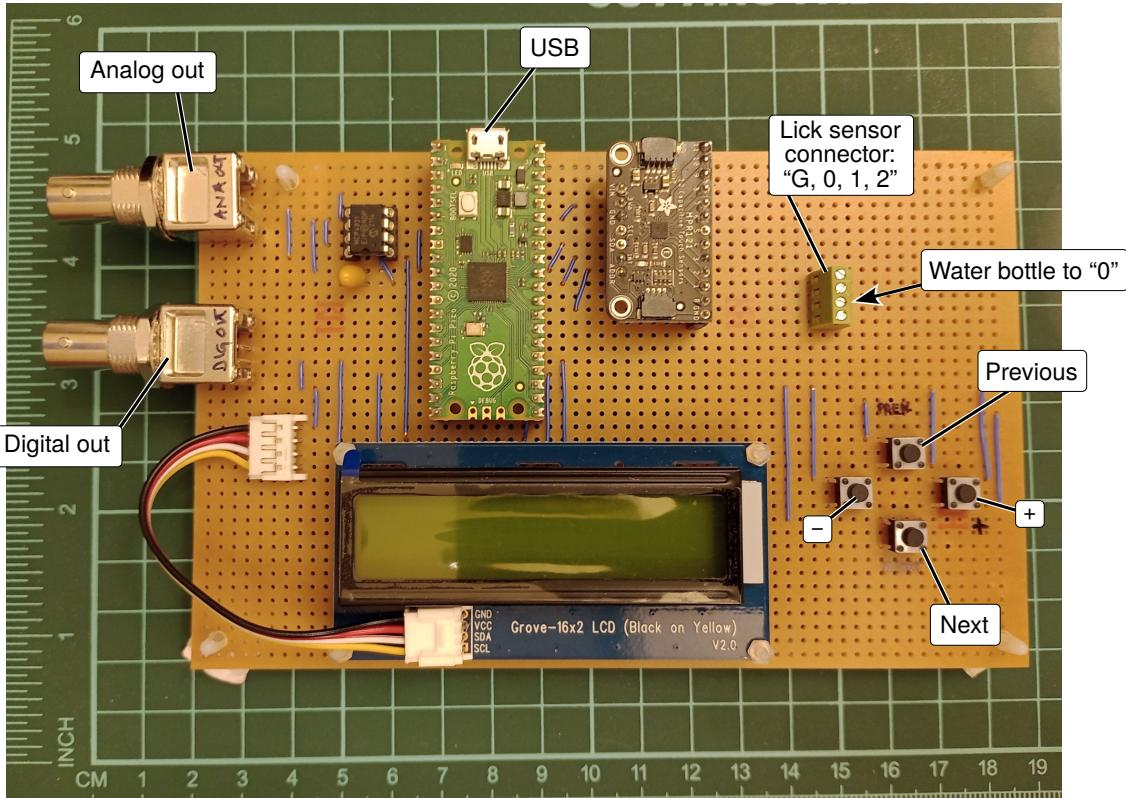

Figure 1. Overview of the lick-sensing device.
1. Use a cable to connect input "0" (second from left to right on the "Lick sensor connector", see Fig. 1) to the (metal) spout of a drinking bottle (Fig. 2A).
Figure 2. (A) A cable connecting the spout of the drinking bottle to the lick sensor is all the wiring required at the animal's end. (B) The output of the lick sensor (“Digital out” in Fig. 1) is a series of voltage steps, each indicating a lick event. (C) Optionally, shielding the spout of the drinking bottle may help reduce false positives that arise when animals hold the spout while drinking. To do this, surround the spout with a piece of conductive material (e.g. foil) and connect this to ground (“G”) on the Lick sensor connector. Use heat shrink or similar to ensure that the foil (ground) and the spout (sensor) do not touch each other. The tip of the spout should be clear of the foil shielding. (D) Keeping ground and signal cables separate, connect these to the lick sensor.